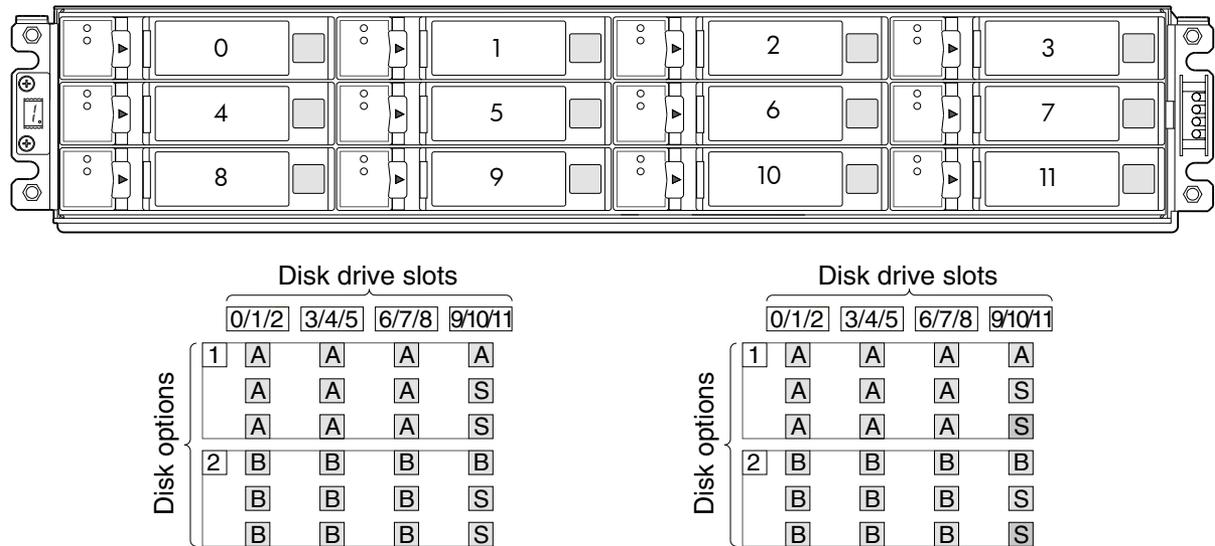

Figure 15 Disk slot configuration options for 12-drive enclosures
- Figure 15 on page 31 (Disk slot configuration options for 12-drive enclosures)